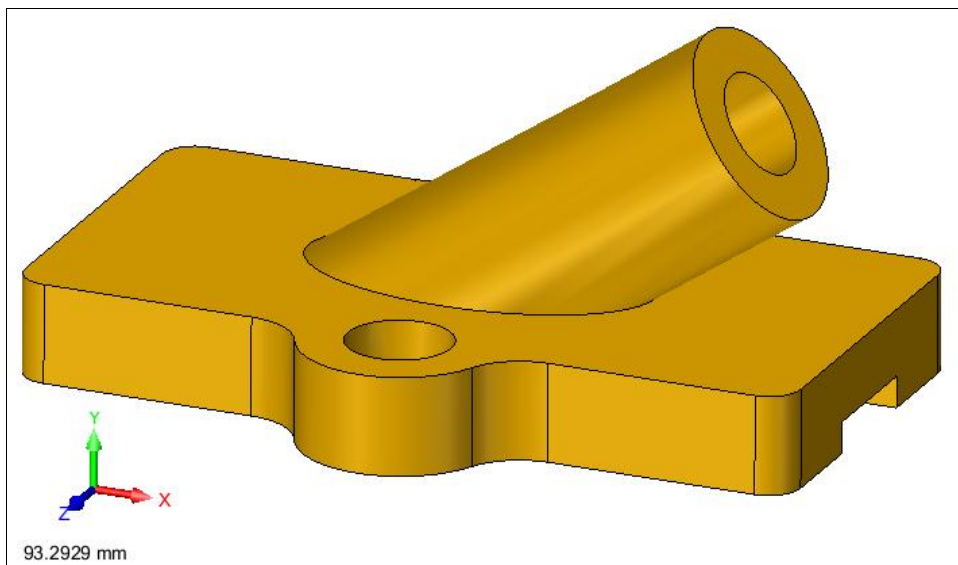

Figure 4. 3D Solid model made from 2D views
**Step 3.** Erase the 2D elements, or else freeze the layers upon which they reside. The completed solid model is shown in figure 4.